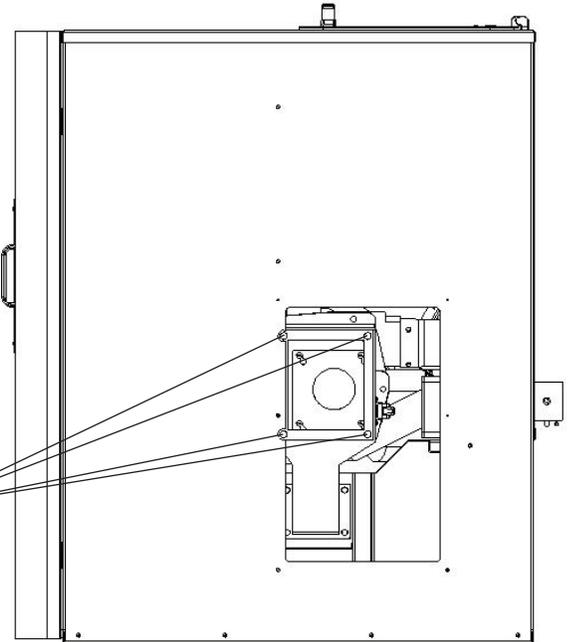

Figure 15
4. The exhaust fan should be cleaned (may require a new gasket). Call dealer for this service. Annual oiling of the motors is not needed. (See Figure 15).